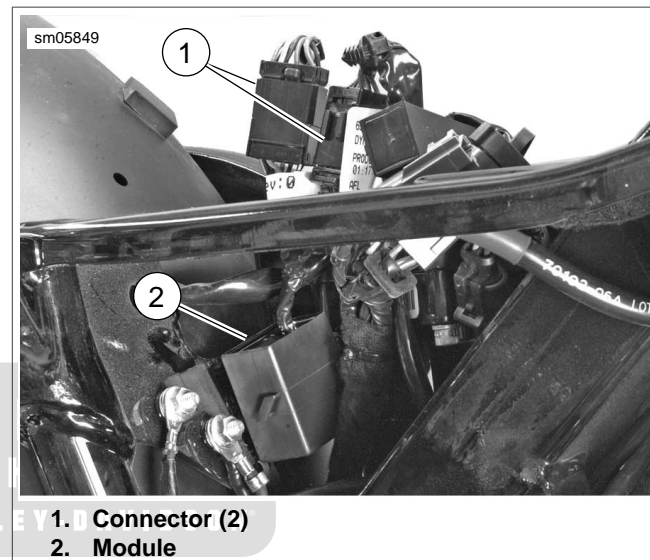

Figure 7-35. Stop-Tail-Turn (STT) Module
3. See Figure 7-35. Disconnect STT module connectors (1) from harness.